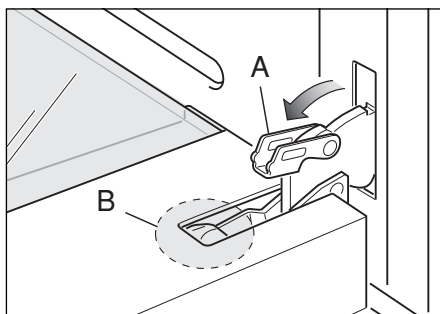
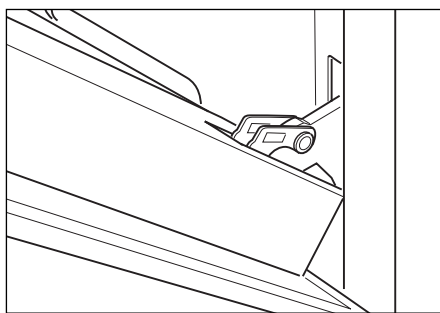

Fig.40b
Fig.40c
- Fully open the lever "A" on the left and right hinges (Fig. 40b).
- Gently close the door (Fig. 40c) until the left and right hinges are hooked to part "B" of the door (Fig. 40b).